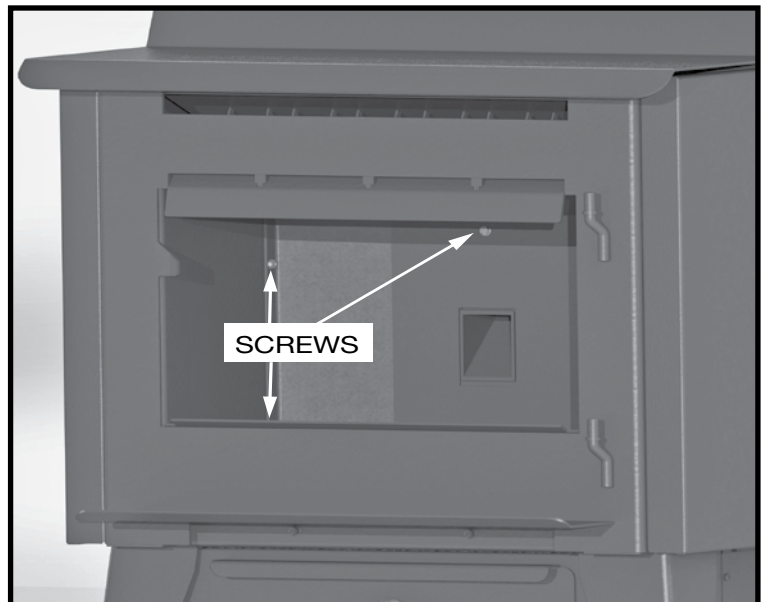

Figure 5: Firebox Liner removal.(SKU 80001351)
- Using penetrating oil and a ratchet with a 5/16" socket, remove a total of five screws securing both sides of the Firebox Liner to the firebox (Figure 5).